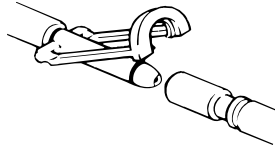

Figure 47 – Clik-Tite open
- b. If you have **Click-Tite** hoses, make sure that the connectors and clamps are open (Figure 47).